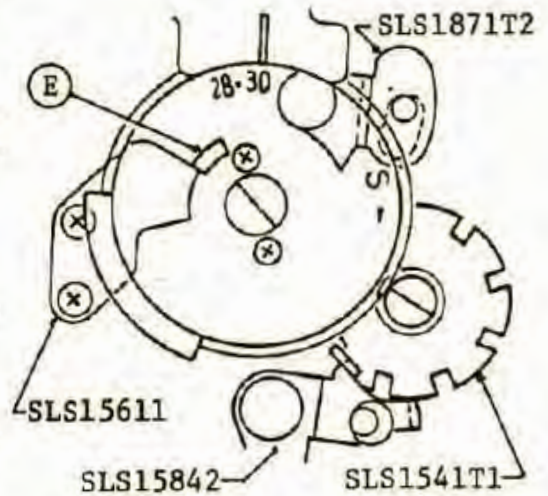

Fig.77-2
Therefore, after the fixed number of exposures have been taken (30), the (E)-protrusion strikes against the SLS15611 Stopper as shown in Fig. 77-2.